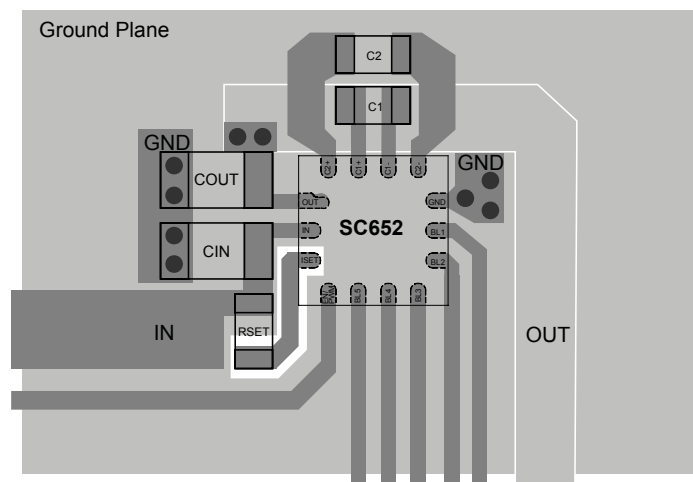

Figure 2 — Recommended PCB Layout
The layout diagram in Figure 2 illustrates a proper two layer PCB layout for the SC652 and supporting components. Following fundamental layout rules is critical for achieving the performance specified in the Electrical Characteristics table. The following guidelines are recommended when developing a PCB layout:
- Resistor R_{SET} should be connected as shown in Figure 2, close to pins IN and ISET. The placement and routing shown minimizes parasitic capacitance at the ISET pin.